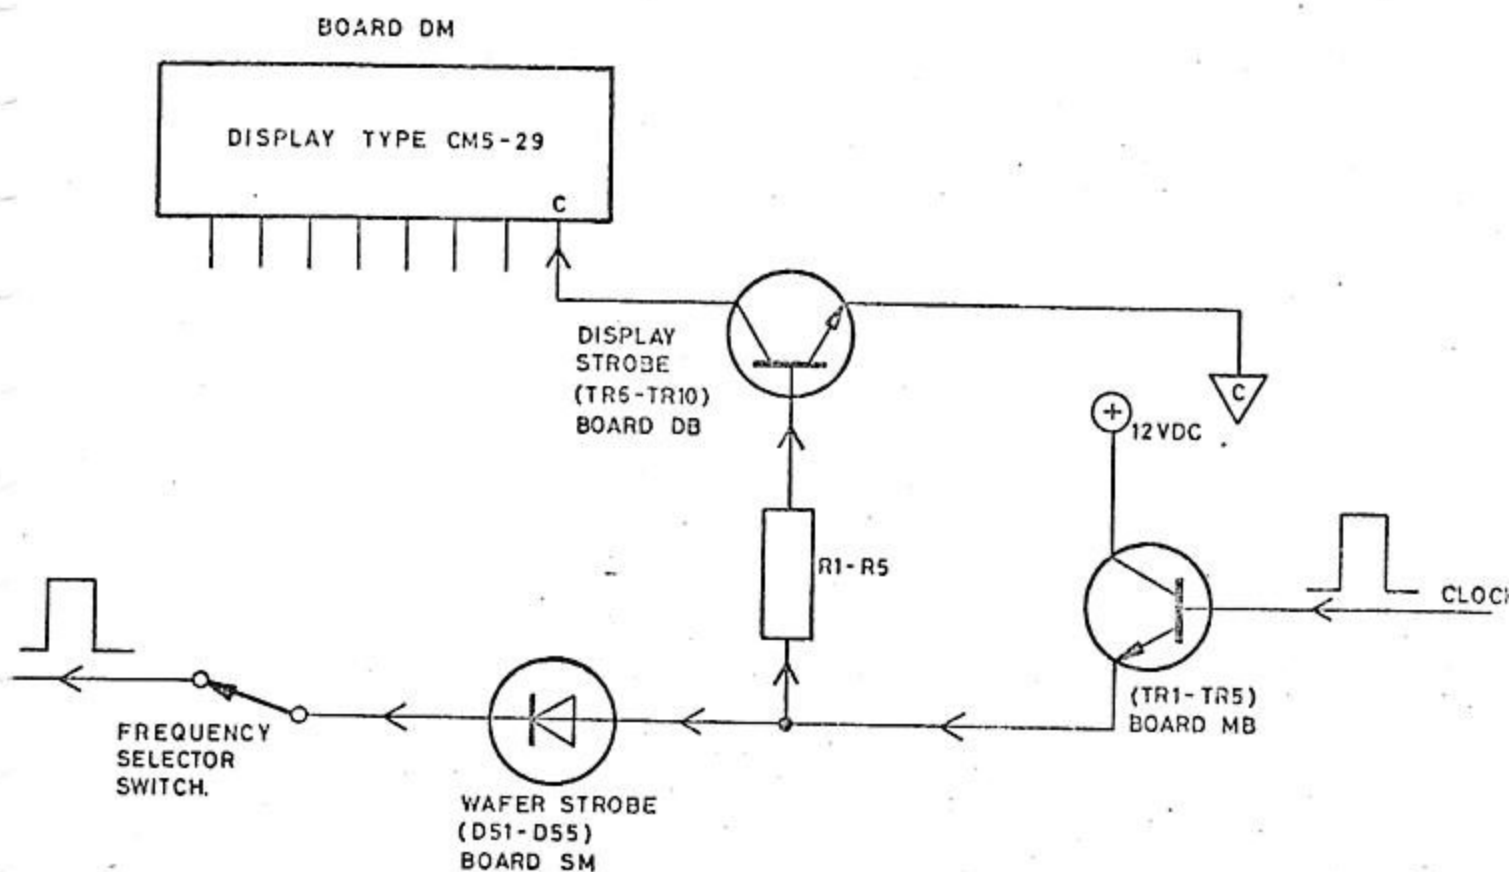

Fig.4 Simplified clock pulse distribution
7. Sequential 1 outputs from transistor switches TR1 to TR5 (Board MB), are routed to the display strobes TR6 to TR10 (Board DB) and (Fig.4). Sequential conduction of TR6 to TR10 strobes the commons of the displays (LP3 to LP7) in the display matrix (Board DM).